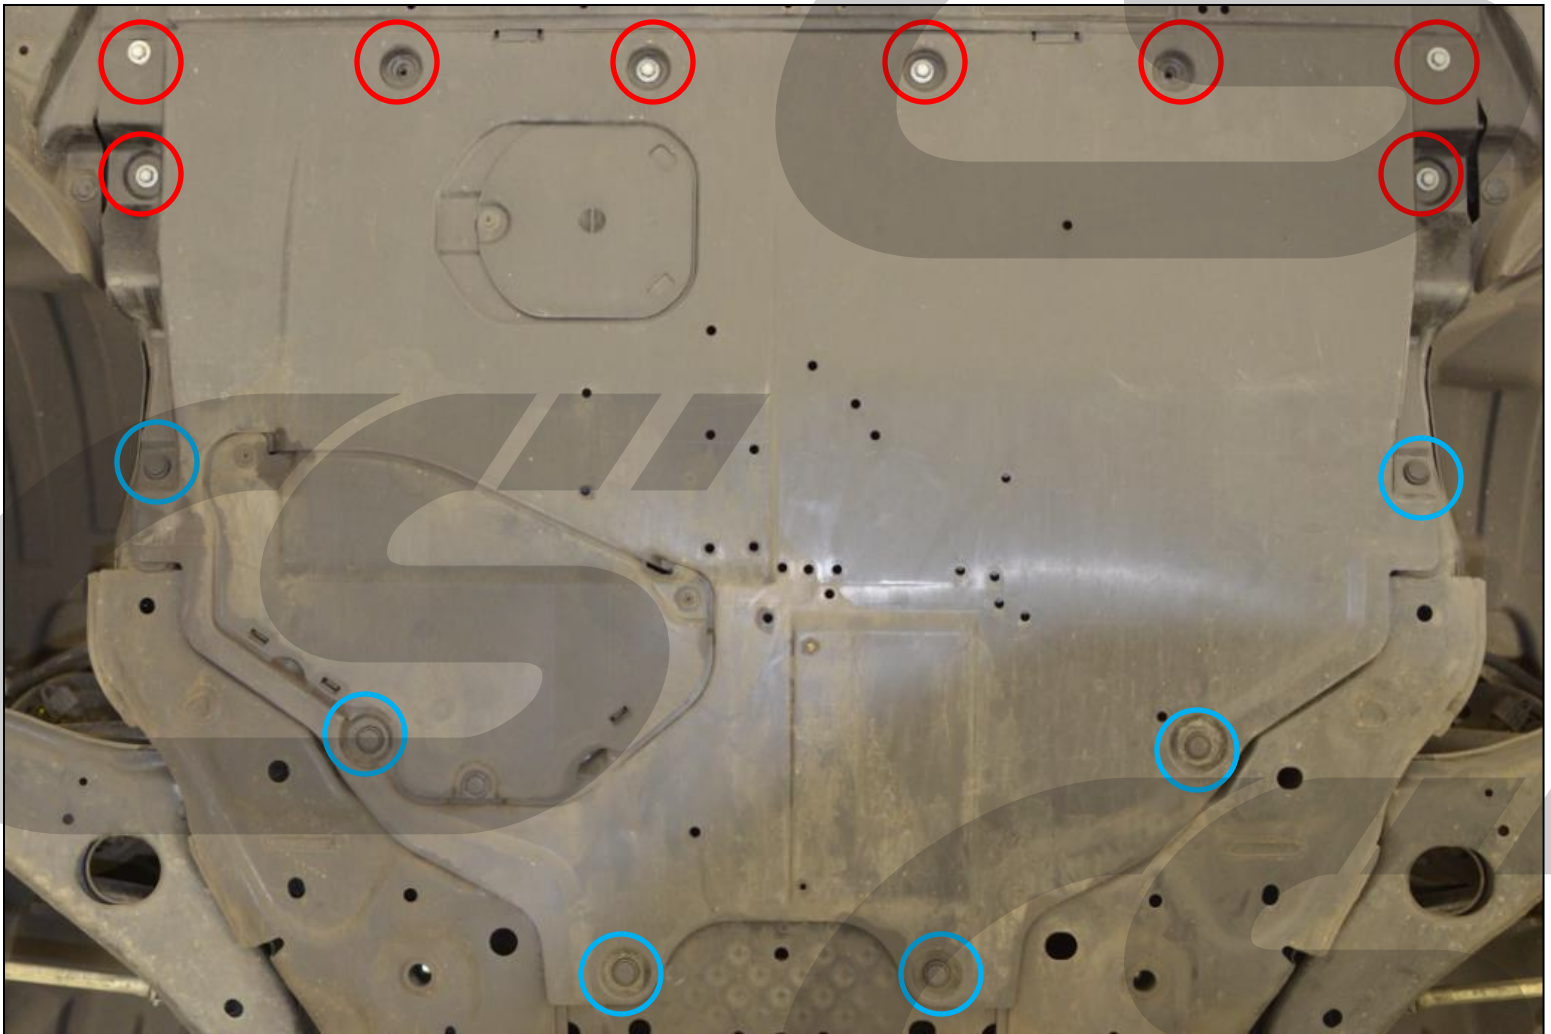

Figure 1a
- d) Remove the engine under tray. Use a 10mm to remove the bolts circled in red and a large flathead screwdriver for the plastic pop clips circled in blue in Figure 1a.